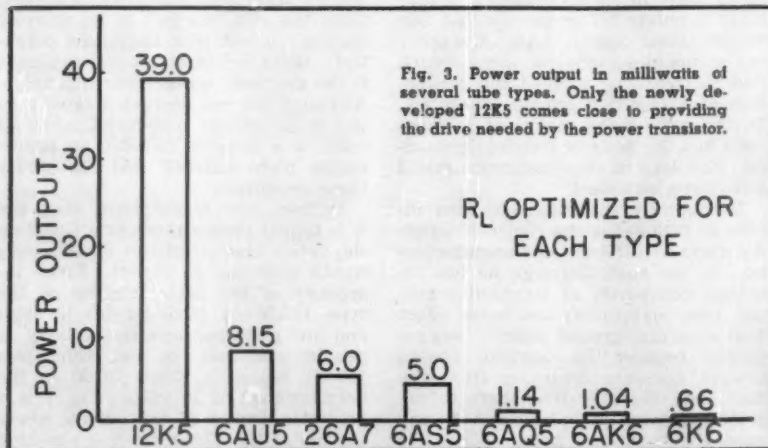
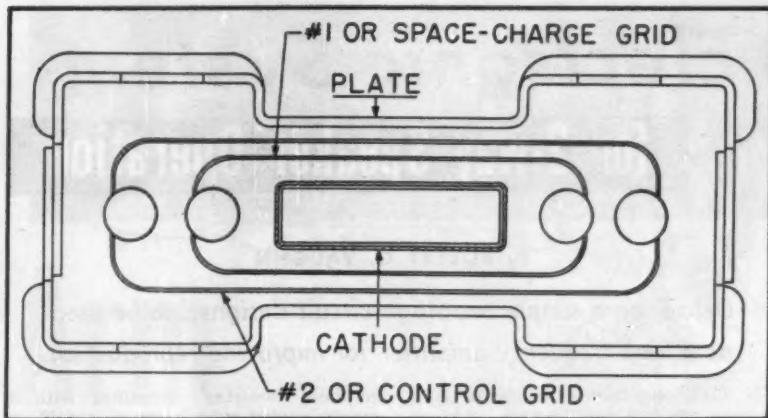

Fig. 3. Power output in milliwatts of several tube types. Only the newly developed 12K5 comes close to providing the drive needed by the power transistor.
Fig. 4. Location of special space-charge or accelerating grid in 12K5 tetrode.
As Fig. 3 shows, conventional tubes, even relatively high-power examples, are inadequate to do the job. Only the newly developed 12K5 comes anywhere near the power-output objective. The availability of peak current approaching 40 milliamperes in the vicinity of zero bias is achieved in the 12K5 by employing the structure depicted in cross-section in Fig. 4. The plate family and transfer characteristics obtained with the special design are shown in Fig. 5.
The new relation can be better understood by referring to the diagrams of Fig. 3. Fig. 3A is a repetition of the method of mounting in Fig. 2B to suit one particular radius. The solid
Fig. 3. A demonstration of the geometry involved in the tracking problem. (A) Straight arm, with single correct position. (B) Bent arm, single correct position. (C) Bent arm with modified mounting to give two correct positions. (D) Longer bent arm, showing reduced deviation from accuracy over the entire range of movement. Refer to Fig. 2.